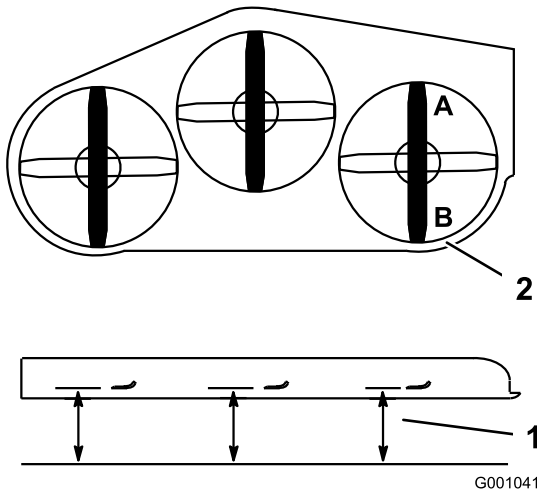

Figure 82
2. Position 1 blade front-to-rear. Measure at **A** and **B** locations from a level surface to the cutting edge of the blade tips (Figure 82).